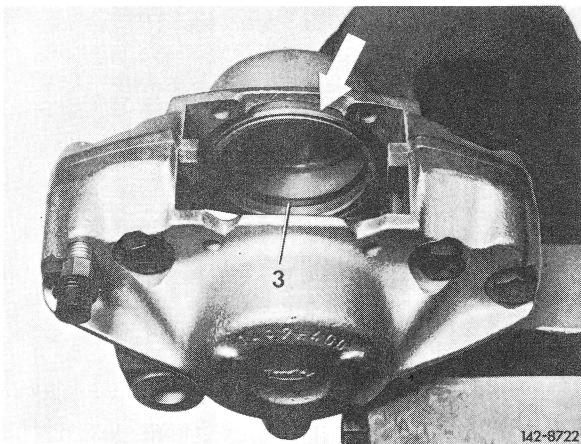

Fig. 10
9 Rub new piston seal (3) lightly with ATE-brake cylinder paste and insert into groove of cylinder bores (Fig. 10).
Note: When repairing Bendix (Bx)-caliper, watch out for rigid and perfect seat of pressed-on ring (refer to arrow Fig. 10).